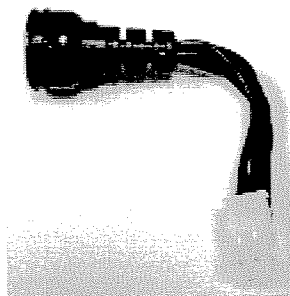
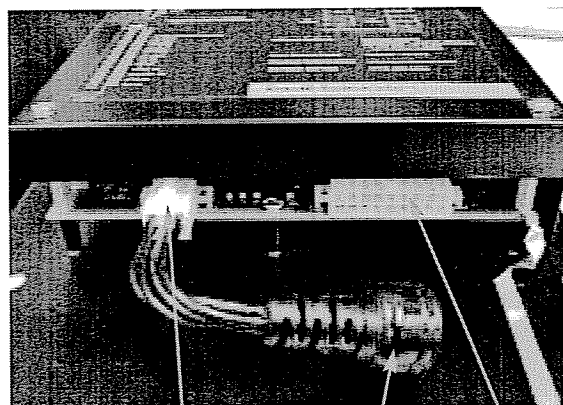

Figure 2
Figure 3
1. Unpack the Controller by removing it from the protective bag. Find the J6 programming Jumper included (Fig. 2), and plug it into the J6 connector on the new Controller as shown in Figure 3.